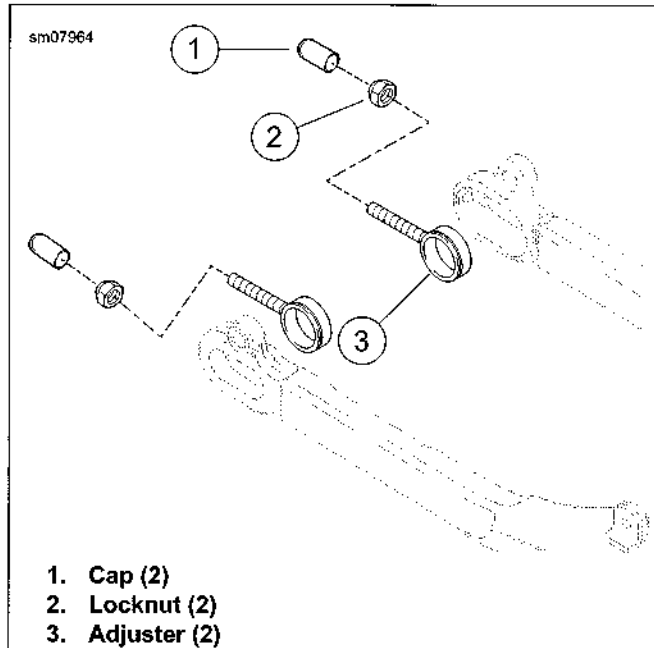

Figure 2-102. Axle Adjusters
3. See Figure 2-102. Remove caps (1), locknuts (2) and adjusters (3).